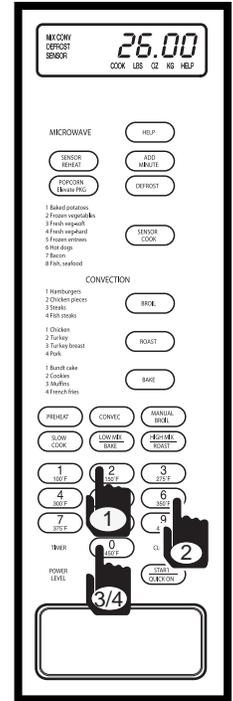

Figure 3-91. Enter Cooking Temperature
3. Enter desired cooking temperature. Press the number 5 key, "325F - ENTER - COOKING - TIME" will flash on display. (See Figure 3-91)